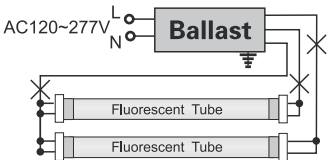
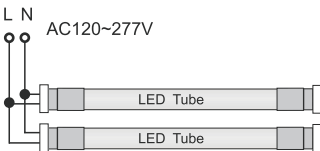

FIGURE 2
FIGURE 3
5. These lamps can operate in single-ended input, Figure 2, or double-ended input, Figure 3. Select your preferred wiring method.